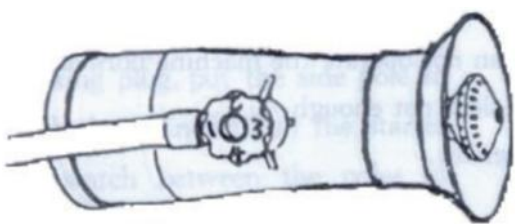

Fig. 9
(1) Misting. Loosen the pressing lid, regulate the length of the nozzle opening to meet the different requirements of misting. Turn the regulating valve to change the amount of misting. See Fig.9.